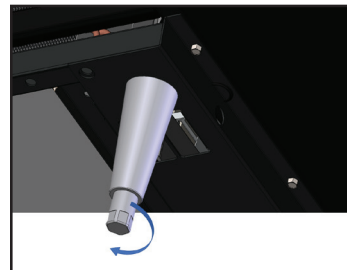

Fig. 5. Turn the bottom stem to level the cabinet.
3. Verify that the cabinet is level. If the cabinet is not level, gently lift and support the low end of the cabinet. Using an adjustable wrench, screw the bottom stem of the leveling leg in or out to level and support the cabinet. See fig. 5.